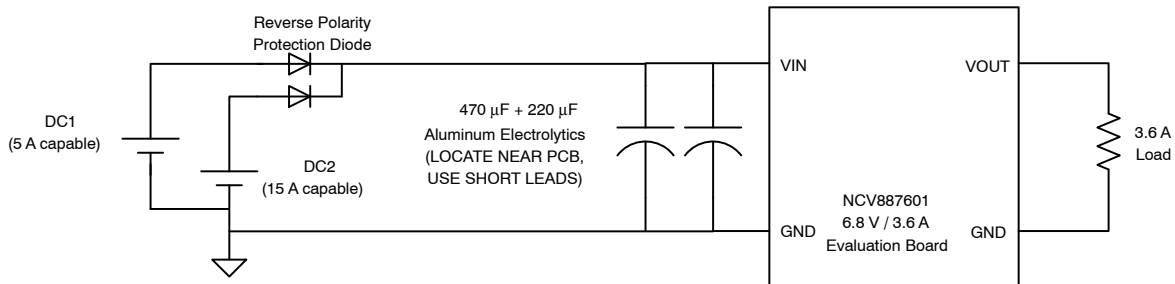

Figure 2. Evaluation Board Connections
The evaluation board is rated to operate at full load for input voltage as low as 2.6 V at the input terminal under full power (less if output current is reduced). Start-Stop applications use reverse battery protection diodes in front of the boost converter (Figure 2), so the input source can operate down to 2.6 V plus a diode drop (i.e. ~3 V). On the cathode side of the reverse battery protection diode, electrolytic capacitors are used (e.g. 2 x 330  $\mu$ F) that serve three functions.
1. Connect a DC2 input voltage (15 A capable) set to a voltage of 12.0 V as shown in Figure 2. DC1 is not used in this test.
1. Connect both DC1 and DC2 input power supplies as illustrated in Figure 2. Adjust DC2 so that PCB VIN = 2.6 V for a 3.6 A load.